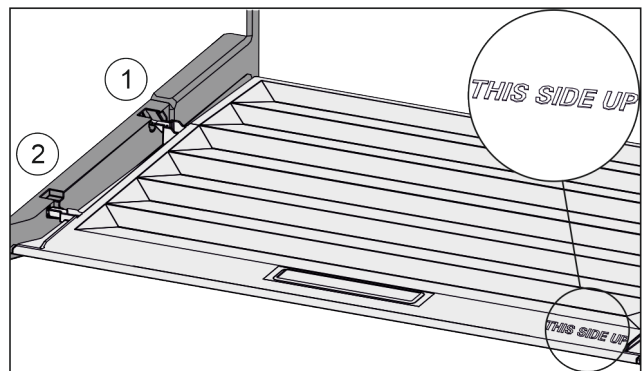

Fig. 132
- ▶ Insert the lip of the cover over the opening of the rear bracket Fig. 132 (1) and click into place Fig. 132 (2).